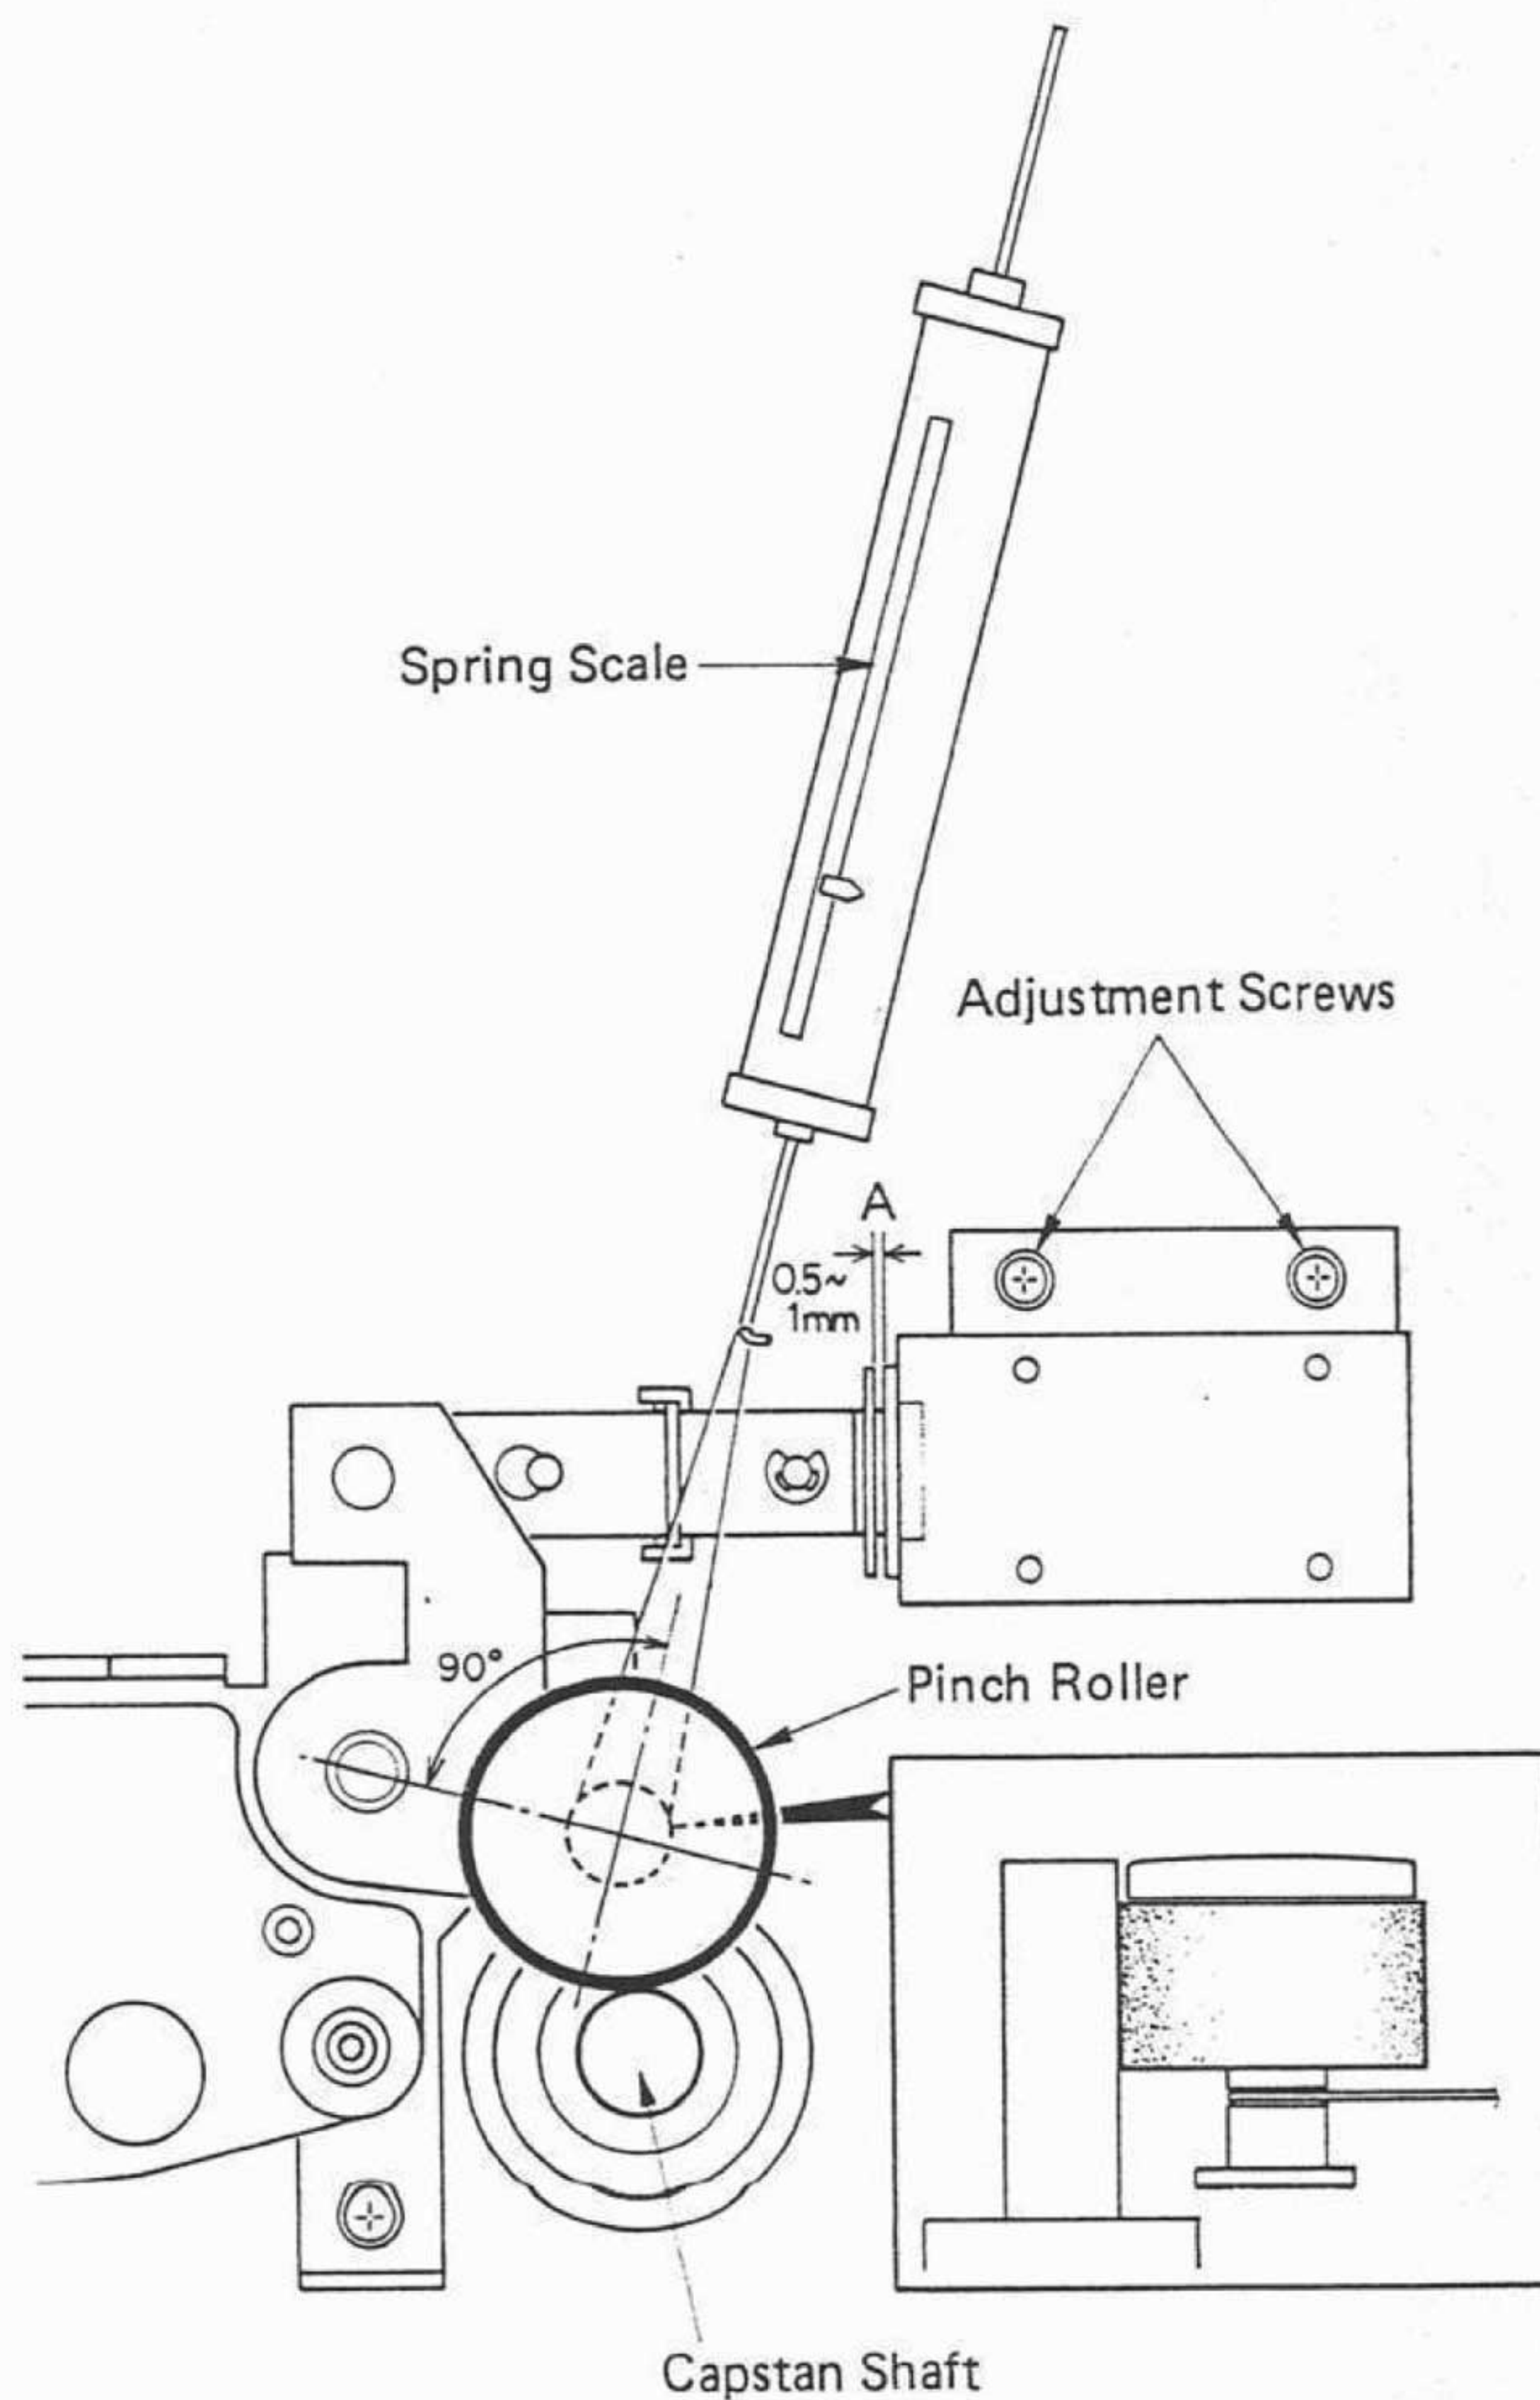

FIG. 17. PINCH ROLLER PRESSURE ADJUSTMENT
3. Attach a spring scale to the pinch roller as shown in Fig. 17.
5. If necessary, loosen the adjustment screws shown in Fig. 17 and move the solenoid mounting plate until pressure and tolerance "A" are both within specifications.